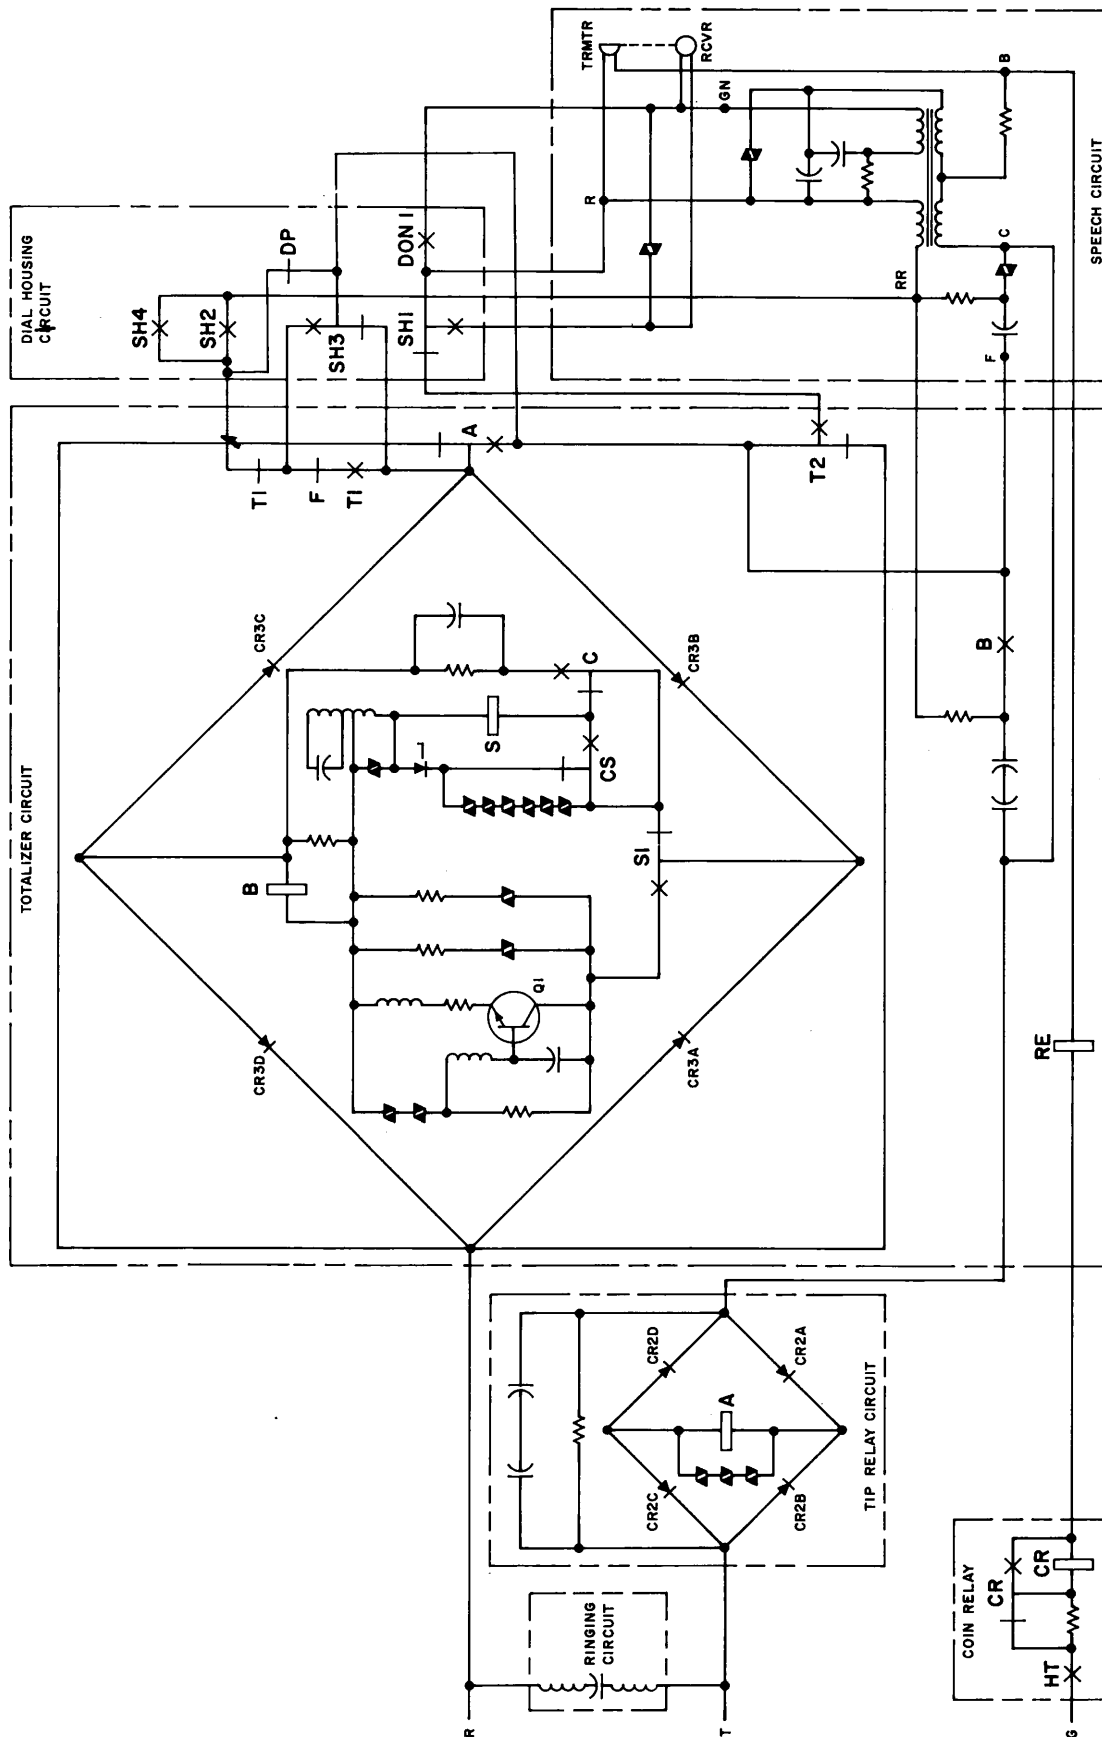

Fig. 11—1C1/2C1 Coin Telephone Set—Schematic (CF Mode)
2.23 Tip Relay Circuit (Used in CF only) (Fig. 11 and 12):
COIN FIRST SERVICE (Fig. 11 and 12)